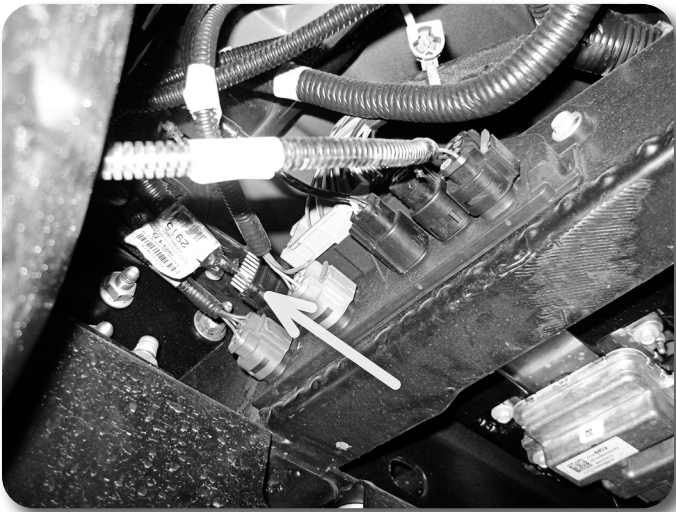

Figure 20
7. Locate the rear wire connector cluster on the rear, driver's side frame crossmember Figure 20. Disconnect the license plate light harnesses.